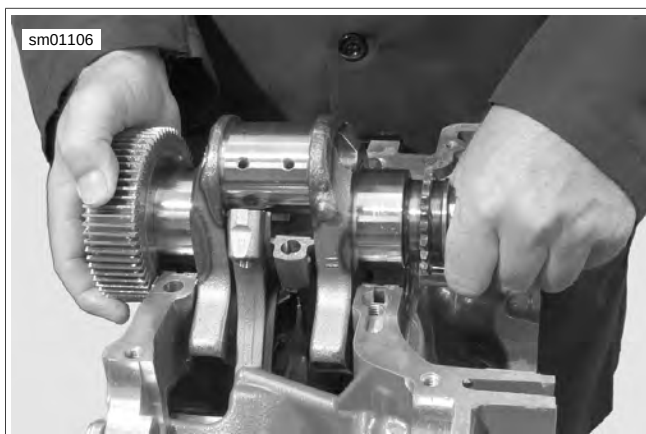

Figure 3-102. Remove Crankshaft
7. See Figure 3-102. Remove crankshaft.